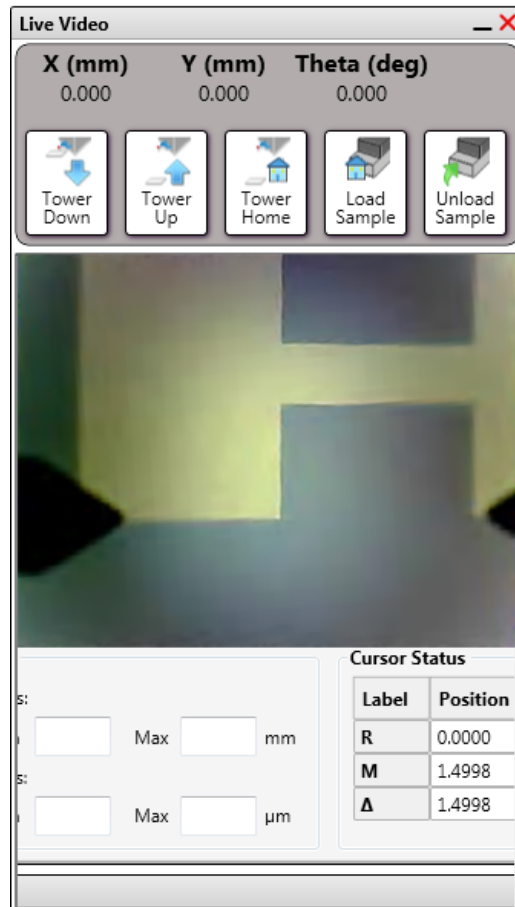

Figure 5-10: Live Video Display
- The Live Video Display that gives you a live view of your sample and the stylus (see Figure 5-10).